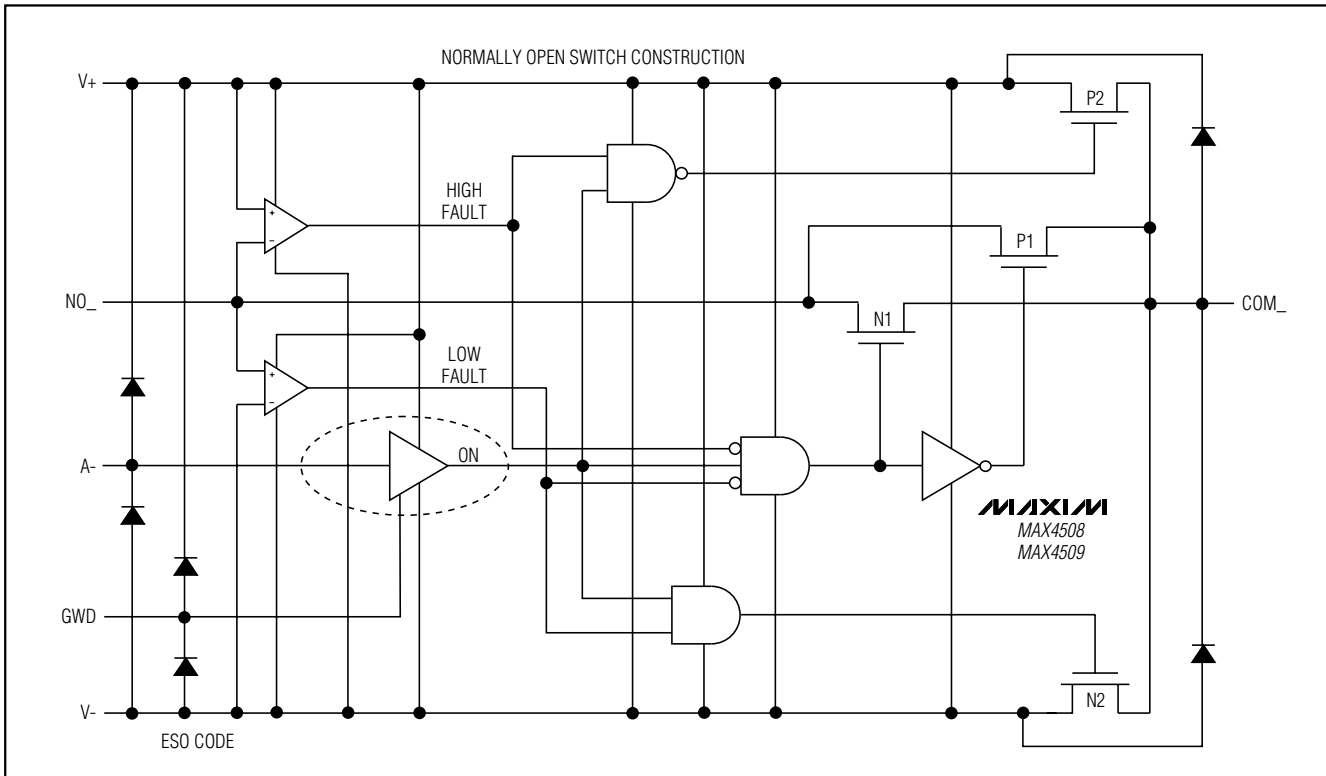

Figure 1. Functional Diagram
Figure 1 shows the internal construction, with the analog signal paths shown in bold. A single normally open (NO) switch is shown. The analog switch is formed by the parallel combination of N-channel FET N1 and P-channel FET P1, which are driven on and off simultaneously, according to the input fault condition and the logic level state.
Two comparators continuously compare the voltage on the NO_ pin with V+ and V- supply voltages. When the signal on NO_ is between V+ and V-, the multiplexer behaves normally, with FETs N1 and P1 turning on and off in response to A_ signals (Figure 1). The parallel
When the signal on NO₋ exceeds V₊ by about 150mV, the positive fault comparator output goes high, turning off FETs N1 and P1 (Figure 1). This makes the NO₋ pin high impedance, regardless of the switch state. If the switch state is “off,” all FETs turn off, and both NO₋ and COM₋ are high impedance. If the switch state is “on,” FET P2 turns on, clamping COM₋ to V₊.
When the signal on NO₋ goes about 150mV below V₋, the negative fault comparator output goes high, turning off FETs N1 and P1 (Figure 1). This makes the NO₋ pin high impedance, regardless of the switch state. If the switch state is “off,” all FETs turn off, and both NO₋ and COM₋ are high impedance. If the switch state is “on,” FET N2 turns on, clamping COM₋ to V₋.
FETs N2 and P2 can source about ±10mA from V₊ or V₋ to the COM₋ pin in the fault condition (Figure 1). Ensure that if the COM₋ pin is connected to a low-impedance load, the absolute maximum current rating of 30mA is never exceeded, either in normal or fault conditions.